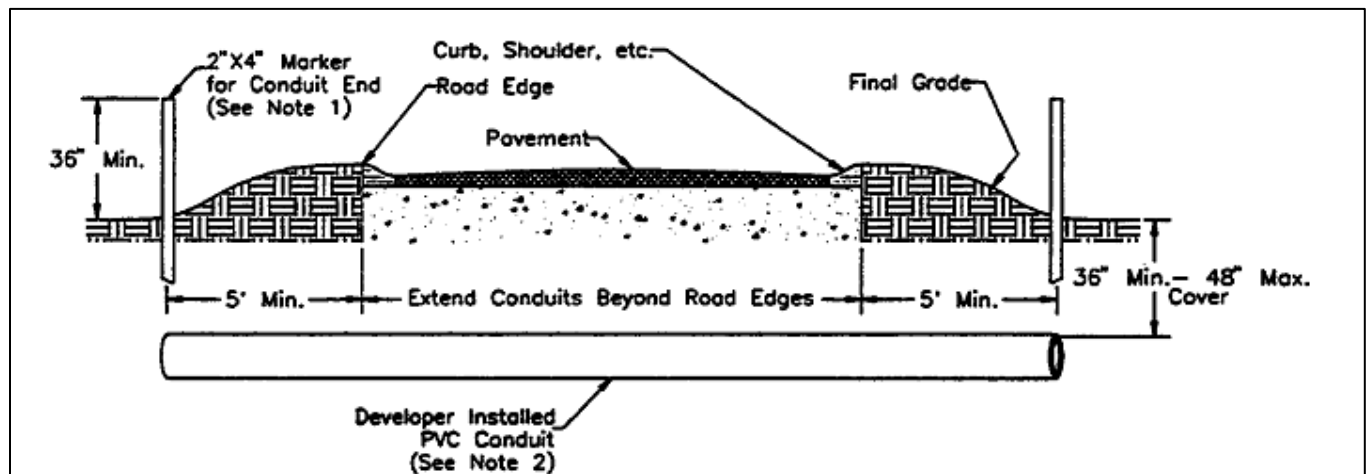

FIGURE 2
- g. All conduits at time of installation shall extend a minimum of five (5) feet beyond the road edge and 2" x 4" studs shall be used to mark conduits at each end of crossing (See Figure 2). The 2" x 4" markers shall be within one (1) foot horizontally from the end of the conduit. The 2" x 4" markers shall extend a minimum of 36 inches above final grade and be clearly identified as to communicate proposed conduit use. The end of the conduit may be cut back at time of pipeline installation if needed.